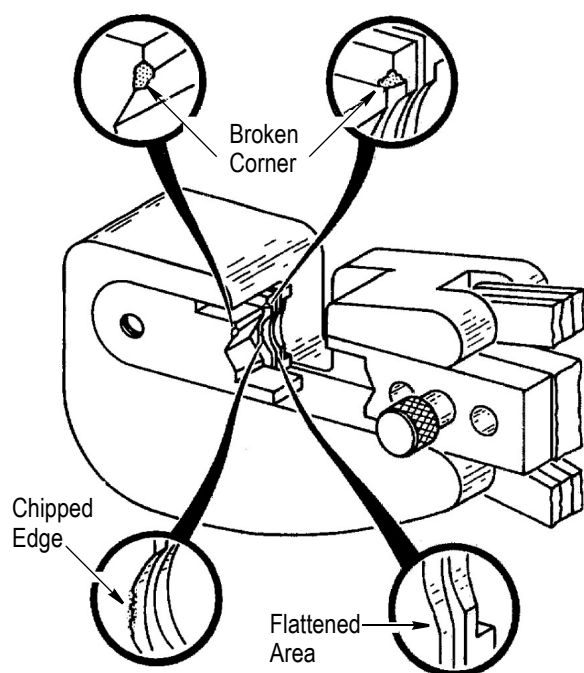

Figure 5
2. Inspect head assembly for worn, cracked, or broken dies. See Figure 5. If damage is evident, return the tool to Tyco Electronics for evaluation and repair. See Section 6, REPLACEMENT AND REPAIR.